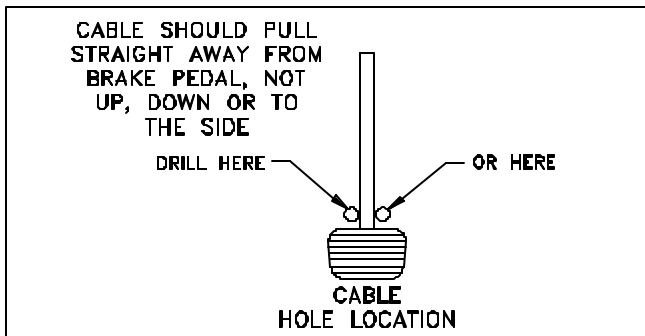

Figure 3
3. From the drivers seat note the distance and direction from the steering column to the brake pedal when the brake pedal is fully depressed. This will normally be a little below and a little inboard of the steering column. Mark the spot on the carpet with chalk where the cable should pass through the floor. Measure the distance and direction and confirm that a drilled hole will not interfere with anything fastened or close to the drilled hole. When selecting the location for the hole, it should be positioned so the cable is pulling straight back on the brake pedal arm, not to either side and not up or down. (Figure 3 & 4)